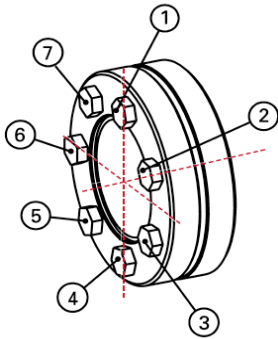

Fig. 2.0
3. Tighten the shrink disc screws, in the same order as shown in figure 2.0.